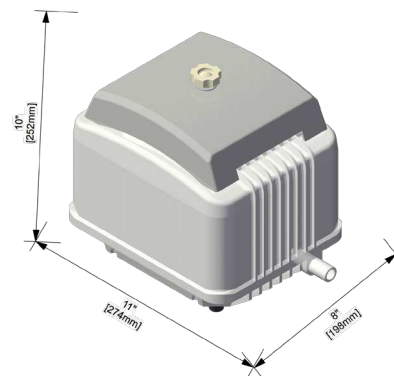

Figure 2: AU-200
**(Optional Accessory) AU-200**- 1/2 HP (375 watt) rated air pump unit capable of producing 6.0 standard cubic feet per minute (0.17 standard cubic meters per minute) @ 4.0 psi (27.6 kiloPascal). 100% duty-cycle. Connection: Stem for 3/4" I.D. hose. Powered by an air pump with a maximum diffuser submergence depth of 12ft (3.7M). Weather resistant construction, suitable for outdoor use. Ensure unit receives proper shade and ventilation to reduce chance of overheating. (See Figure 2)